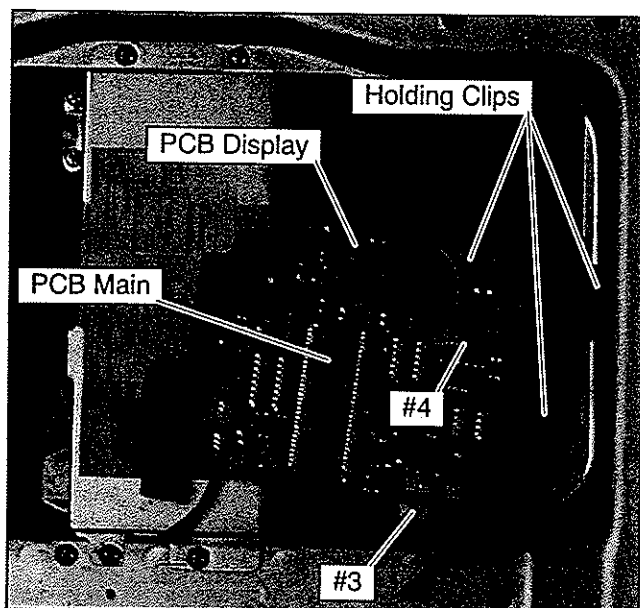

Figure 3-13 Main/Display PCB's
To remove the Main PCB board (Figure 3-13) do the following:
- f. Unplug display wiring plug #4. Figure 3-13
- g. Unplug thermistor/thermostat wiring plug #3. Figure 3-13
To remove the PCB display assembly (Figure 3-13) do the following.